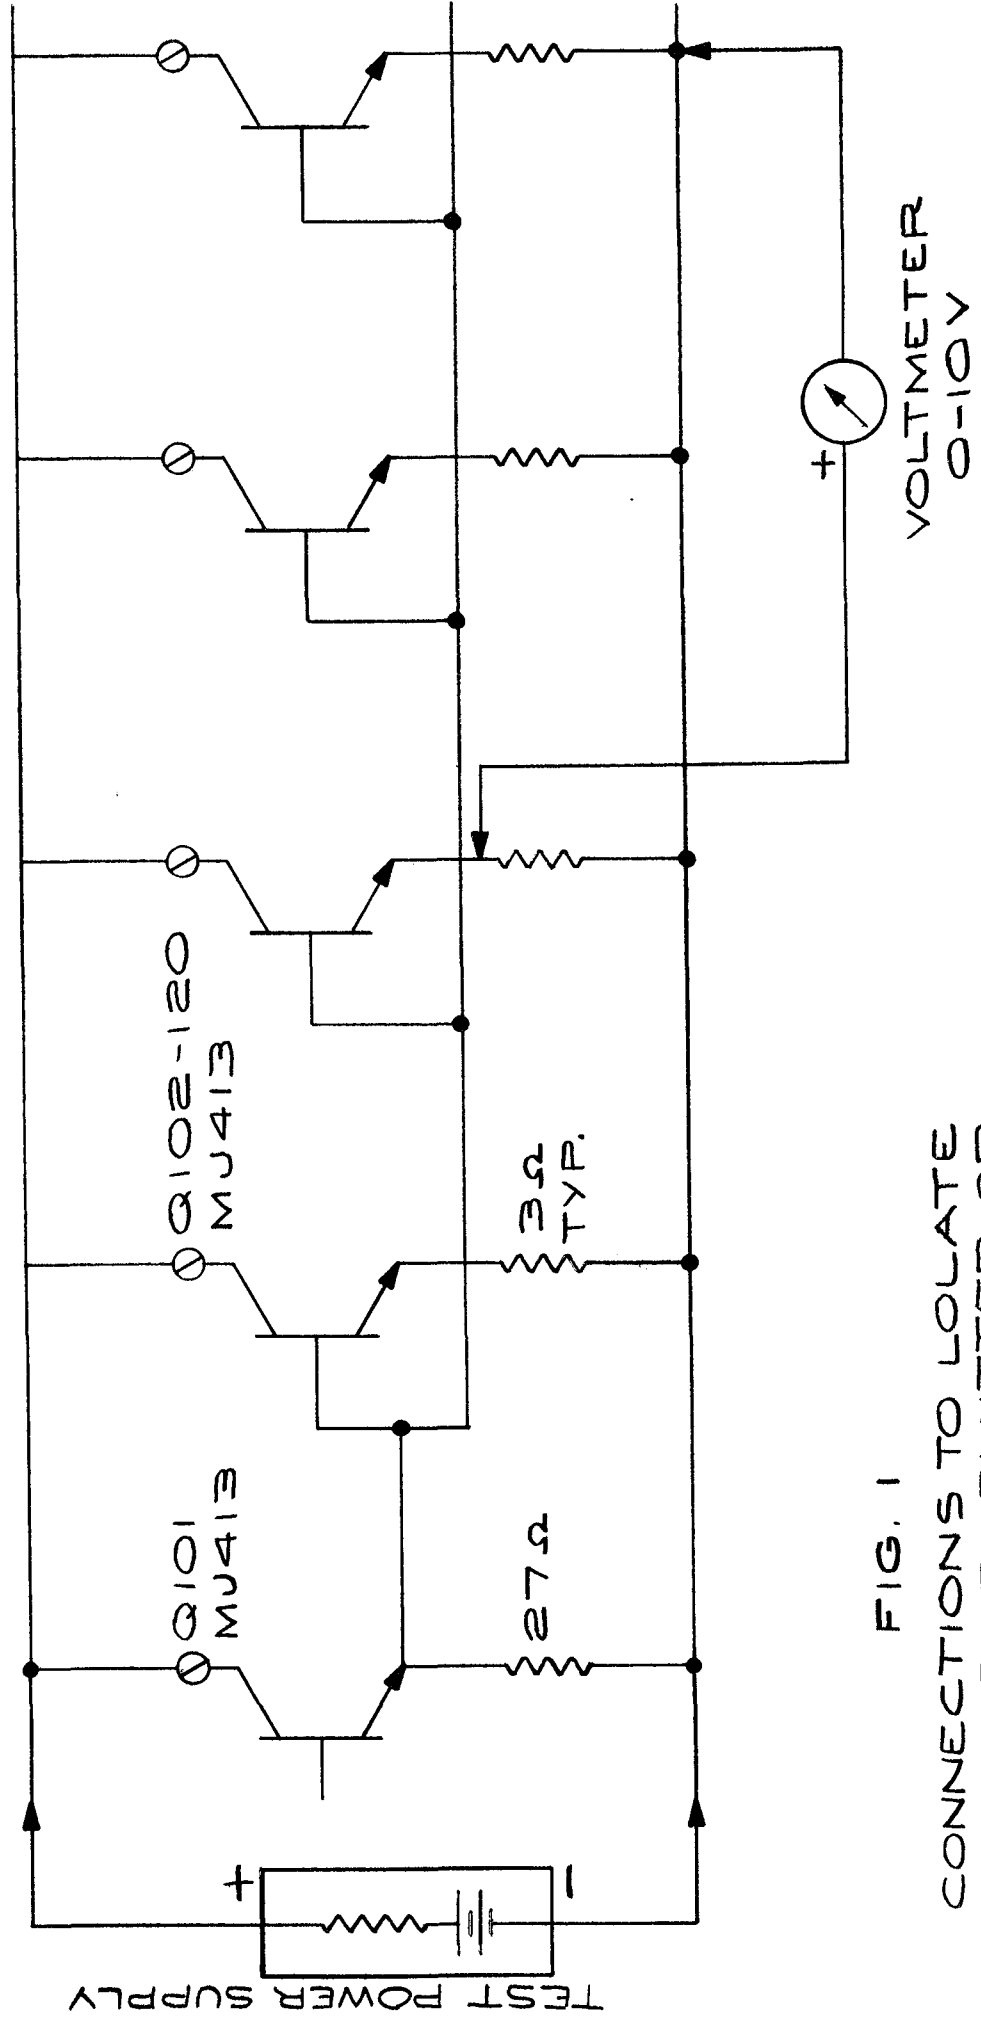

FIG. 1 CONNECTIONS TO LOCATE COLLECTOR-EMITTER OR Emitter-ELECTRODE SHORT.
2. Connect equipment as shown in Fig. 1. The test power supply must be current limiting or be used with a suitable resistance. Open circuit voltage should be 20-50 volts. Short circuit current should be 1-10 amperes.